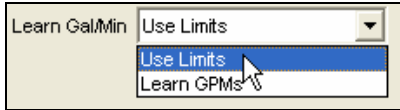

Figure 16.3.9B
6. Next edit the **Learned Gal/Min** box. Use the drop down arrow to the right (Figure 16.3.9B).